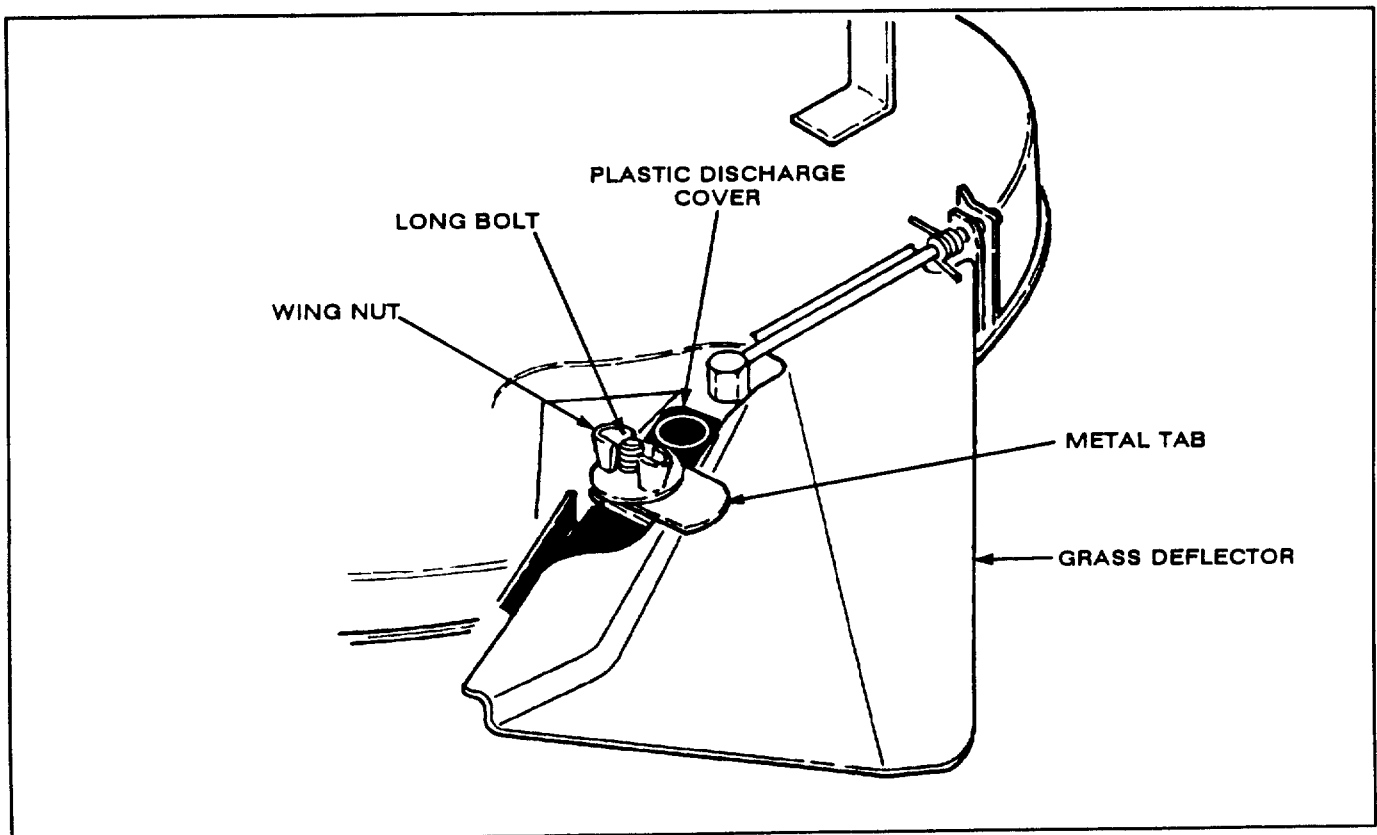

Figure 1
INSTALLING DISCHARGE COVER (Fig. 1)**WARNING**
2. Place metal tab on long bolt as shown in Figure 1.